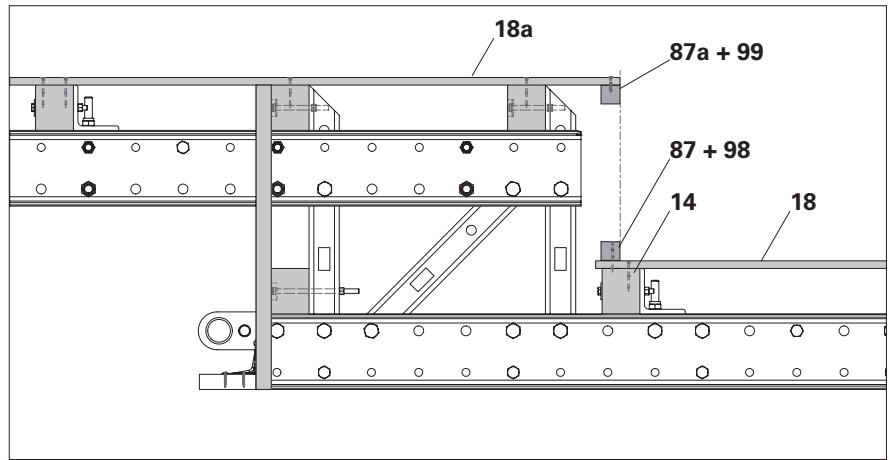

Fig. C3.06
4. Secure squared timber 50 x 50 (**87a**) to pre-drilled enclosure panel (**18a**) with screws 6 x 60 (**99**). (Fig. C3.06)